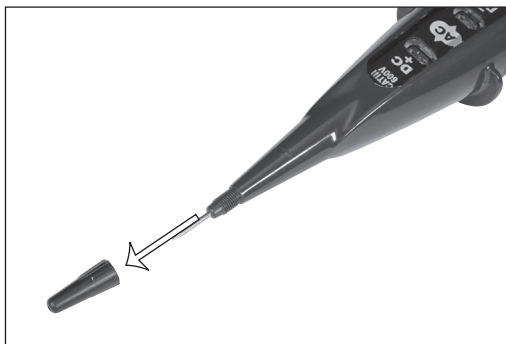

Fig. 1
If necessary, the probe caps (3) can be removed to extend the length of the exposed probes. To remove the probe caps, twist them anticlockwise (Fig. 1).